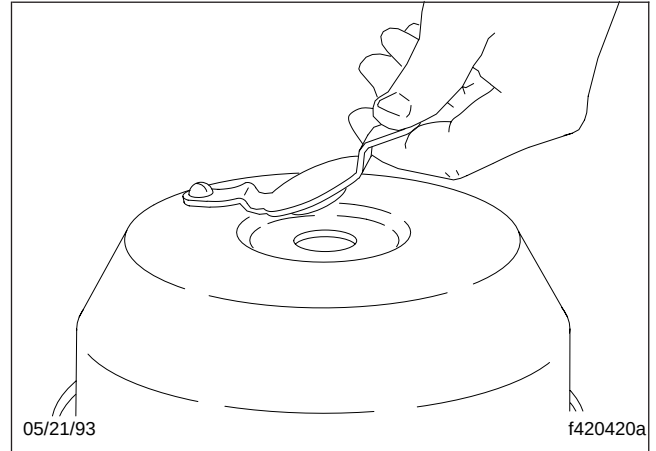

Fig. 2, Removing the End-Cover Cap
2. Remove the end-cover cap from the center-hole in the head of the chamber. See Fig. 2.